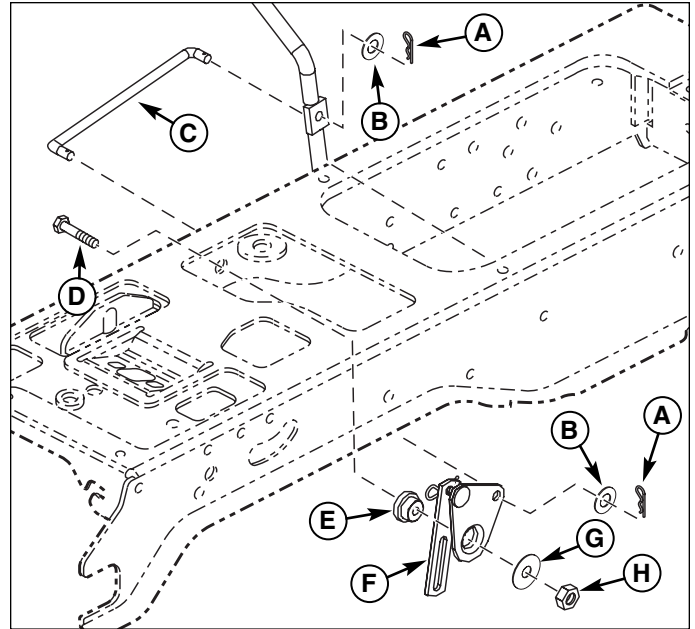

Figure 6. Rod & Bell Crank Removal
1. Remove and retain spacer (E, Figure 6), bell crank assembly (F), washer (G), and nut (H). You may find installation easier to remove rod (C) and one cotter pin (A) and washer (B).
2. Remove and discard capscrew (D).